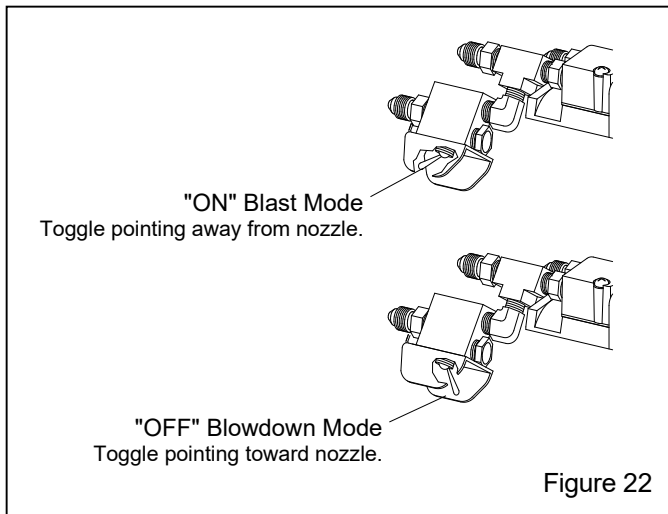

Figure 22
4.11.2 Pneumatic controls: The abrasive cutoff switch is situated directly behind the control handle, as shown in Figure 22. The switch may be flipped ON or OFF at any time, but it will not operate the metering valve unless the control handle is pressed.